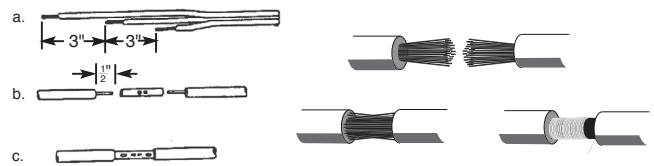

Figure 1A: Cable Splicing: Solid Wire, Stranded Wire
Prepare the cable and make the mechanical connections (Figure 1A) and splices as follows:
- 5A. BUTT CONNECTORS (Figure 1A): Insert wires into connector until insulation butts up against connector. Crimp connector to wires with a pair of crimping pliers. Pull on cable to make sure the connection is solid and tight.
- 5B. SOLDERED CONNECTIONS (Figure 1A):